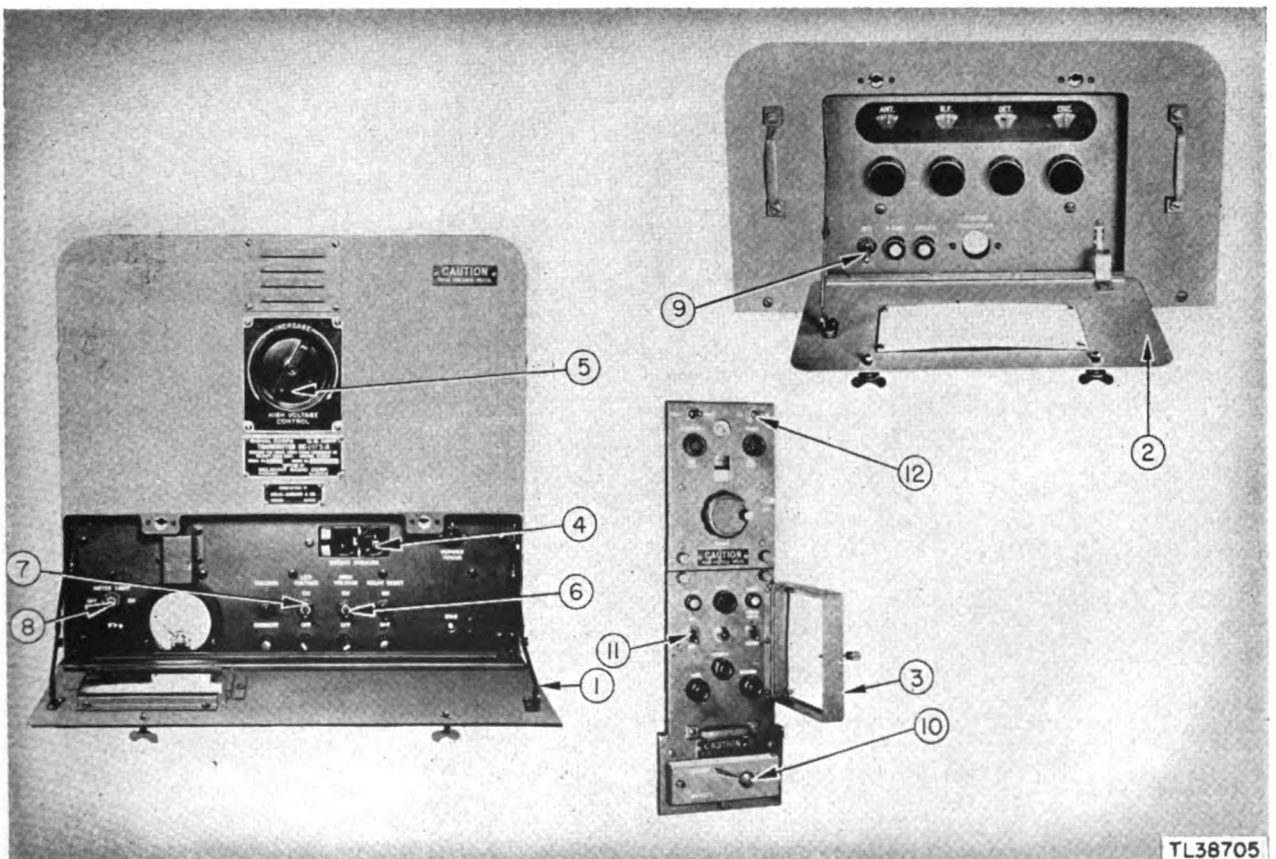

Figure 58. Preliminary equipment adjustments.
a. The preliminary adjustments listed in this paragraph are to be made whenever the set is placed in operation. The various steps which are designated in figure 58 correspond to the numbers in the text. The radar set should be operating normally.
(1) Lower the transmitter hinge cover, which is on the front lower section of the transmitter case, by turning the two thumbnuts a quarter-turn to the left.
(2) Open the receiver hinge cover in the same manner.
(3) Open doors on control unit by unscrewing knurled hand screws.
(4) The CIRCUIT BREAKER must be OFF.
(5) HIGH VOLTAGE CONTROL must be in extreme counterclockwise position.
(6) HIGH VOLTAGE switch OFF.
(7) LOW VOLTAGE switch OFF.
(8) METER LIGHT switch ON.